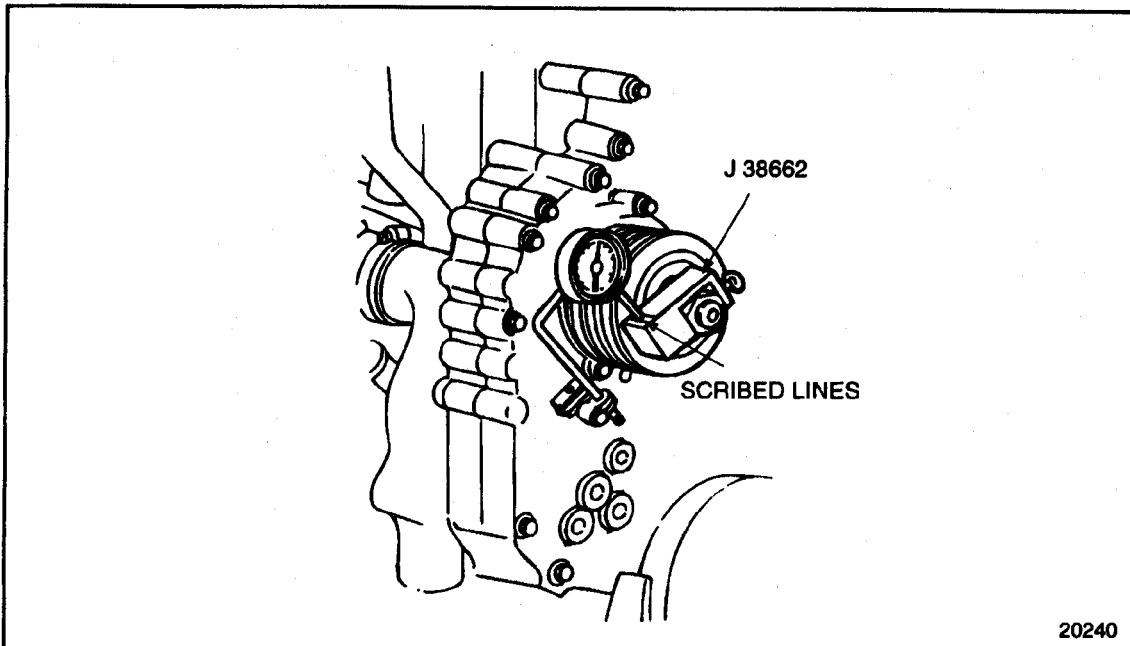

Figure 1-314 Accessory Drive Gear-to-Bull Gear Lash Measurement
- [a] Install the gear lash tool, J 38662 and mount a magnetic dial indicator base and dial indicator to the gear case cover. See Figure 1-314.
- [b] Position the dial indicator to read between the scribed lines on the tool. See Figure 1-314.